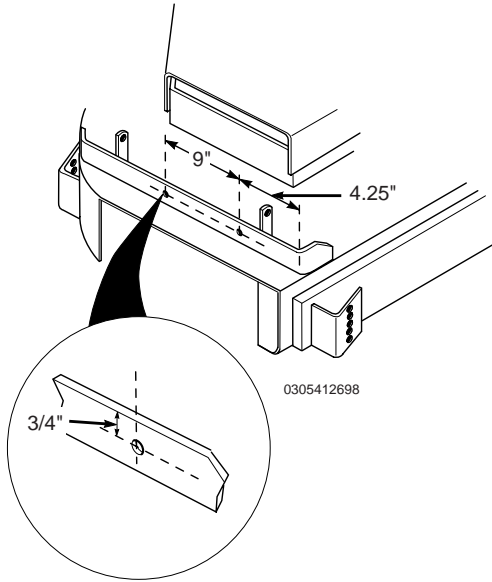

Figure 4, Hole Location
- If your cutter deck does not have the two discharge chute mounting holes, locate and center punch the two hole locations in the cutter deck as shown in Figure 4, page 4. Drill the holes at the marked locations using a 1/8" drill bit, then finish drilling using a 13/32" drill bit.